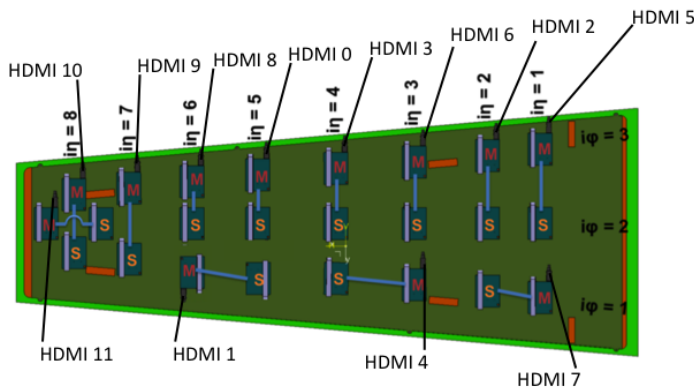

Figure 31: The cabling setup for the APVs.
2. Place the APVs on the detector based on the cabling setup in fig. 31.